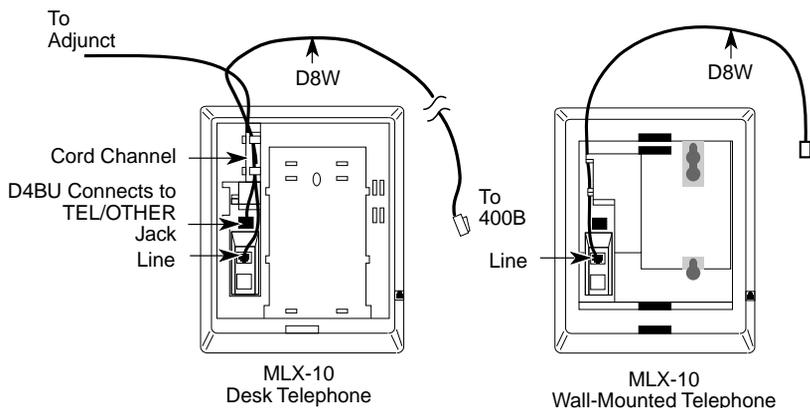

Figure 3-31. Connecting the Line Cords
- ▶ **2. Connect the line cords. See Figure 3-31.**